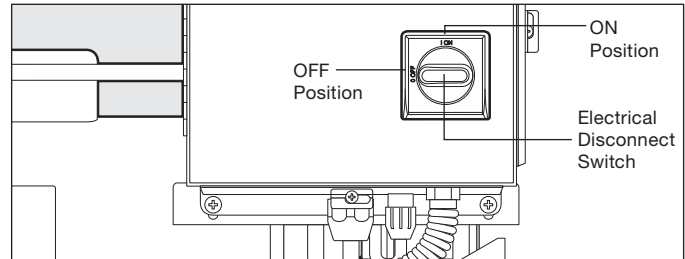

Figure 12. Electrical Disconnect Switch
The switch on the front panel of the control disconnects the line voltage (see Figure 12). It interlocks with the front cover so that the panel cannot be opened unless the switch is in the OFF position.
**NOTE:** Electrical disconnect switch must be in OFF position to open control panel (see Figure 12).